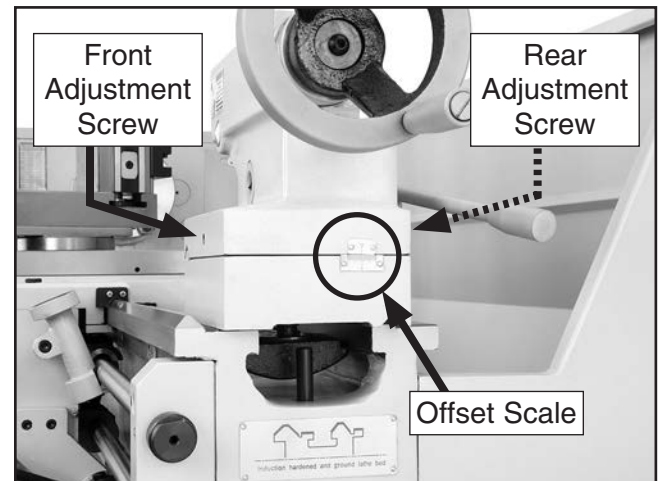

Figure 36. Tailstock off-set adjustments.
By offsetting the tailstock, the dead center can hold a workpiece at a particular away from the spindle centerline so tapers and pipe threads can be cut. For a quick visual tool in keeping track of tailstock movement, an offset scale (see **Figure 36**) with arbitrary increments is located at the rear of the tailstock. However, to achieve exact taper angles, or to adjust the tailstock back into the spindle centerline, angle gauges and a test indicator must be used.
2. Using a 4mm hex wrench, loosen one of the front or rear adjustment screws shown in **Figure 36**.